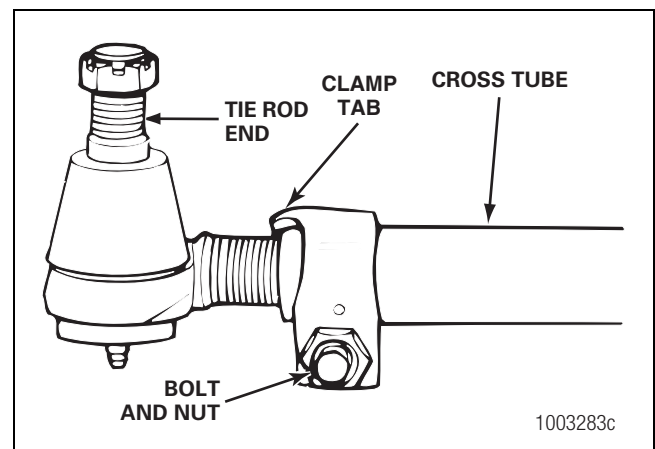
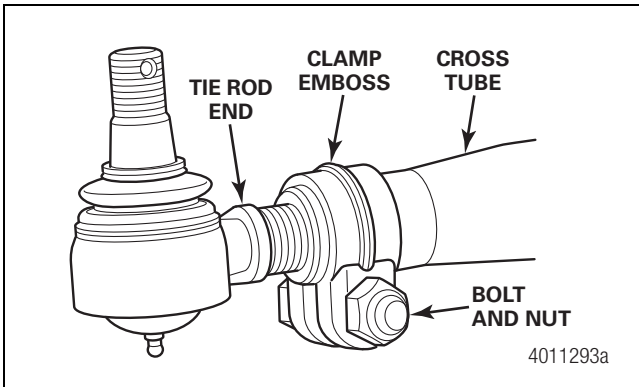
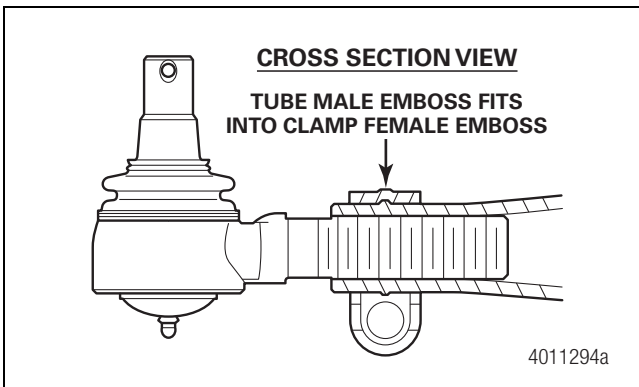
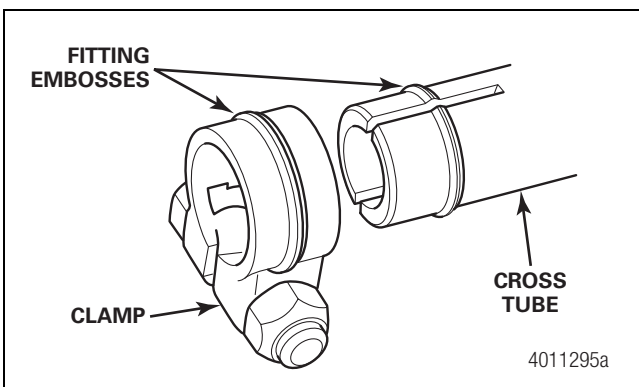

Figure 6.41
Figure 6.42
Figure 6.43
Figure 6.44
5. Install the nuts and the bolts into the clamps. The clamp tab, when available, must be firmly seated against the cross tube. Figure 6.41. Otherwise, the clamp-guiding female emboss must be seated into the tube male emboss. Figure 6.42, Figure 6.43 and Figure 6.44. Tighten to the specified torque. Refer to Section 10.
2. Install the nuts and the bolts into the clamps. The clamp tab, when available, must be firmly seated against the cross tube. Figure 6.41. Otherwise, the clamp-guiding female emboss must be seated into the tube male emboss. Figure 6.42, Figure 6.43 and Figure 6.44. Tighten the nut to the specified torque. Refer to Section 10.